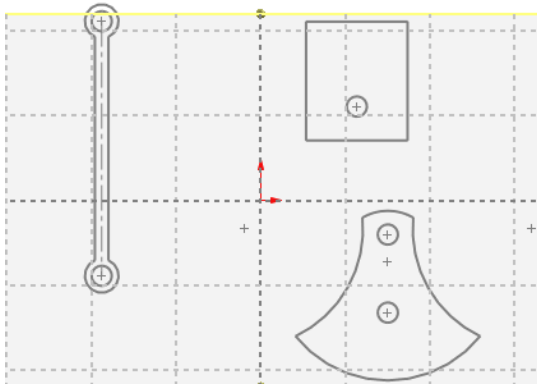

Figure 2-31 Blocks after they are inserted in the layout environment
6. Similarly, insert the **Piston_rod** and **Piston_tank** blocks in this layout environment. To change the current view orientation normal to the screen, choose the **View Orientation** button from the **View (Heads-Up)** toolbar; a flyout is displayed. Choose the **Normal To** button from the flyout. Figure 2-31 shows the blocks inserted in the layout environment.